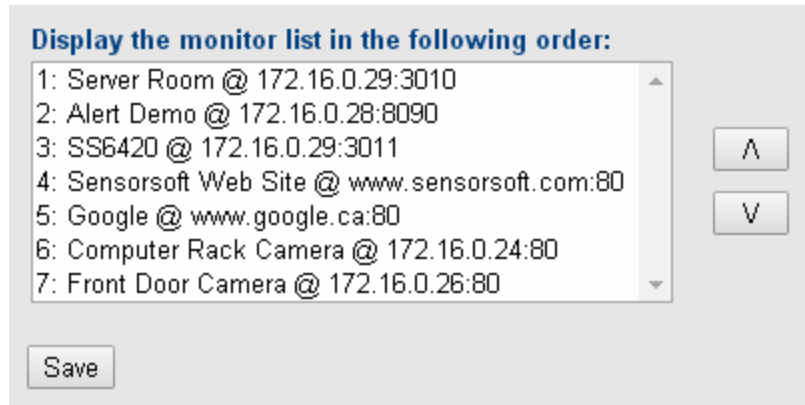

Figure 6: Reordering the Monitor List
3. Under the **Display the monitor list in the following order** heading, there is a list box that looks like the one shown in Figure 6. This list box contains all of the monitored items/nodes. From the list box, select the item/node of interest and move it using the arrows buttons on the right. If your list is long (hundreds or thousands) additional radio button options will be displayed to allow you to move items/nodes fast and very fast through the list by holding down the up and down mouse buttons.